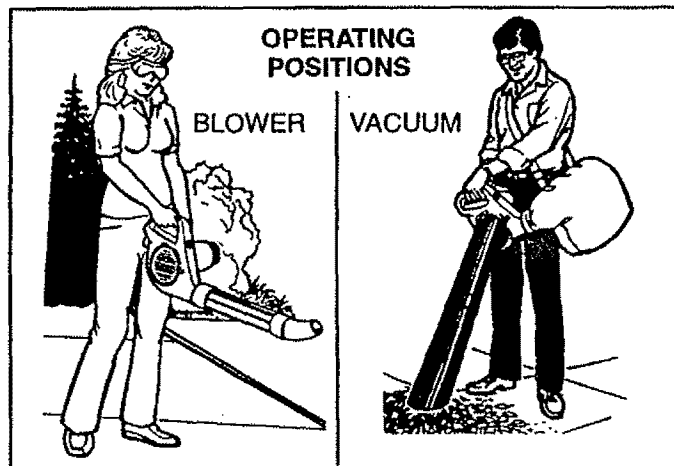

Figure 11
- **Use the correct operating position.** Figure 11. Do not overreach or use from unstable surfaces such as ladders, trees, steep slopes, roof tops, etc. Keep firm footing and balance at all times.
USING YOUR UNIT AS A BLOWER (Fig. 11)